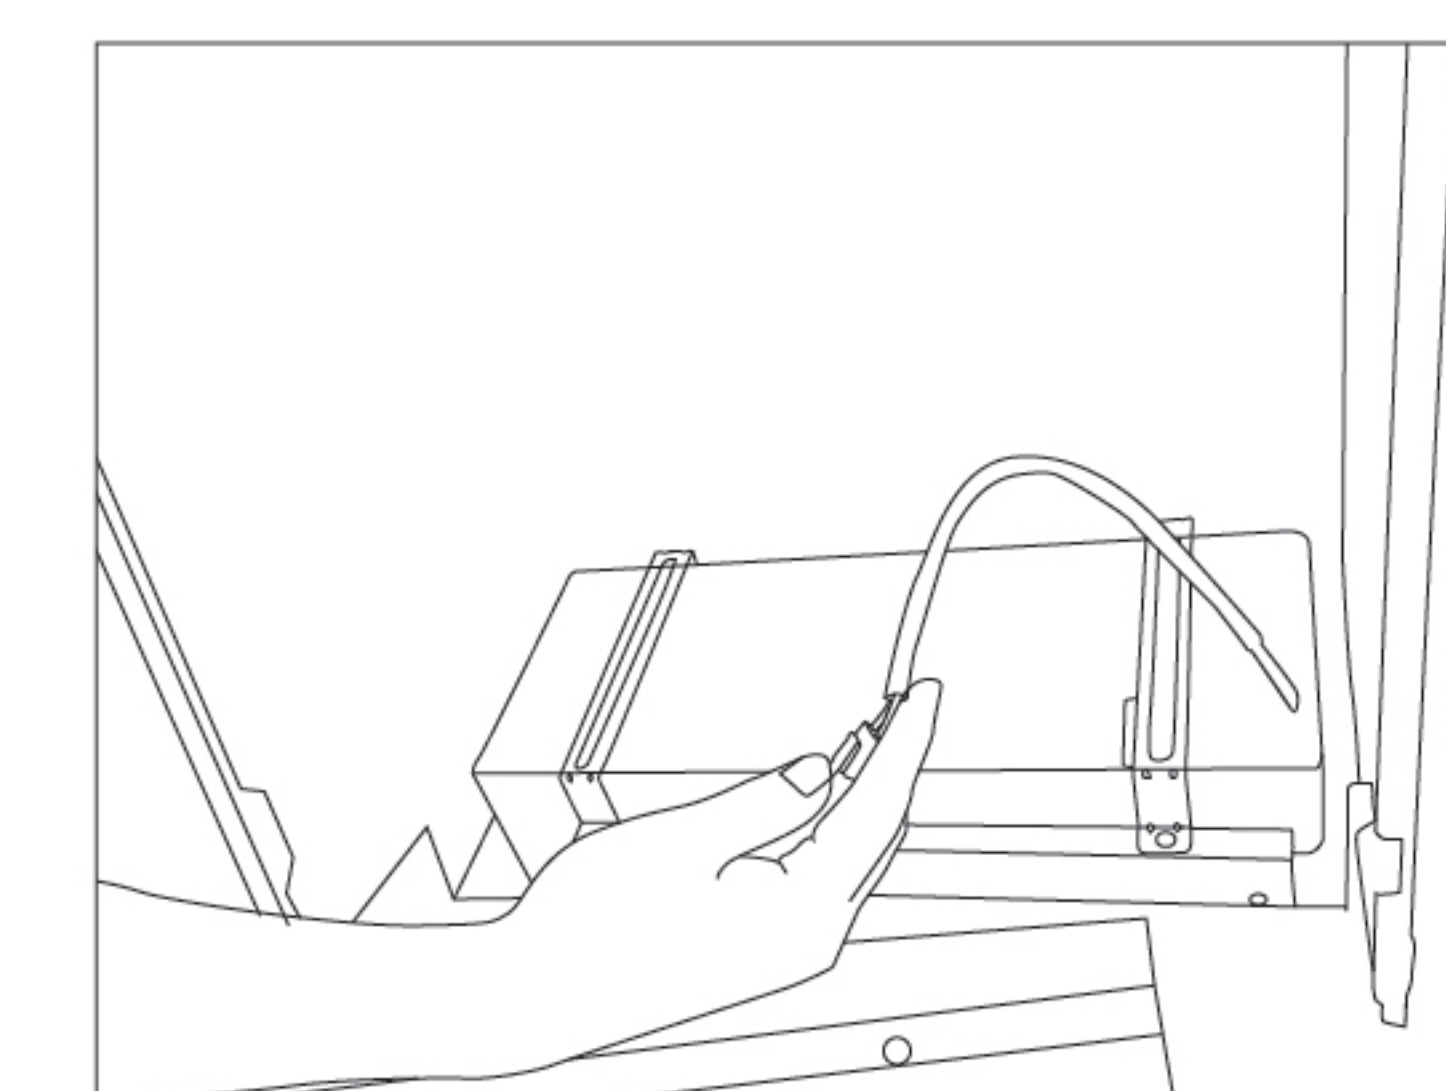

Fig.5
2. Loosen two fastening screws of the fan cover with a cross screwdriver; hold the left and right ends of the fan cover with both hands and move it upward; detach the fan cover from suspender buckles on both sides of the fan frame; and disconnect connectors inside the fan cover (e.g. LED lamp connector) to remove (Fig.5)the fan cover and the decorative cover.